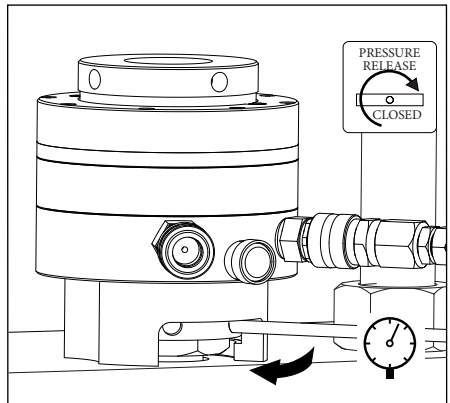

FIGURE 8, TURNING DOWN THE SOCKET AND NUT
7. While holding the pressure constant, use a tommy bar to turn down the first socket and nut by hand. Continue tightening until the nut is firmly seated against the joint surface. See figures 8 and 9.
8. While holding the pressure constant, use a tommy bar to turn down the first socket and nut by hand. Continue tightening until the nut is firmly seated against the joint surface. See figures 8 and 9.
19. While holding the pressure constant, use a tommy bar to turn down the first socket and nut by hand. Continue tightening until the nut is firmly seated against the joint surface. See figures 8 and 9.